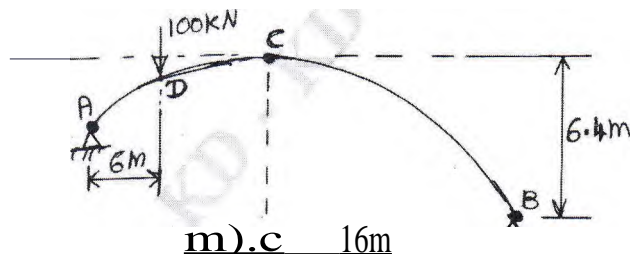

Fig.Q8(a)
- 8 a. Calculate the support reactions, normal thrust and radial shear at point 'D' for a three hinged parabolic arch as shown in Fig.Q8(a). (08 Marks)